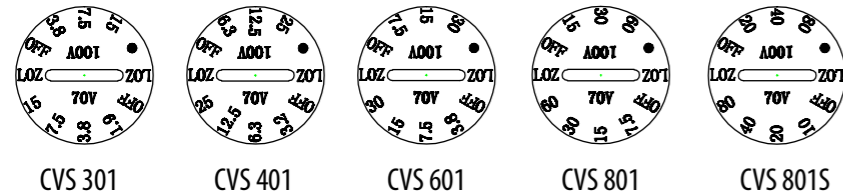

Fig.6 Speaker Tap Selector Switches
- The speaker is fitted with a multi-tap transformer for use in distributed-line systems (Fig.6). There is also a LOZ tap. Select the required tap before pushing the grill in place. The average impedance of each speaker in this range is 8 Ohms in the LOZ setting.